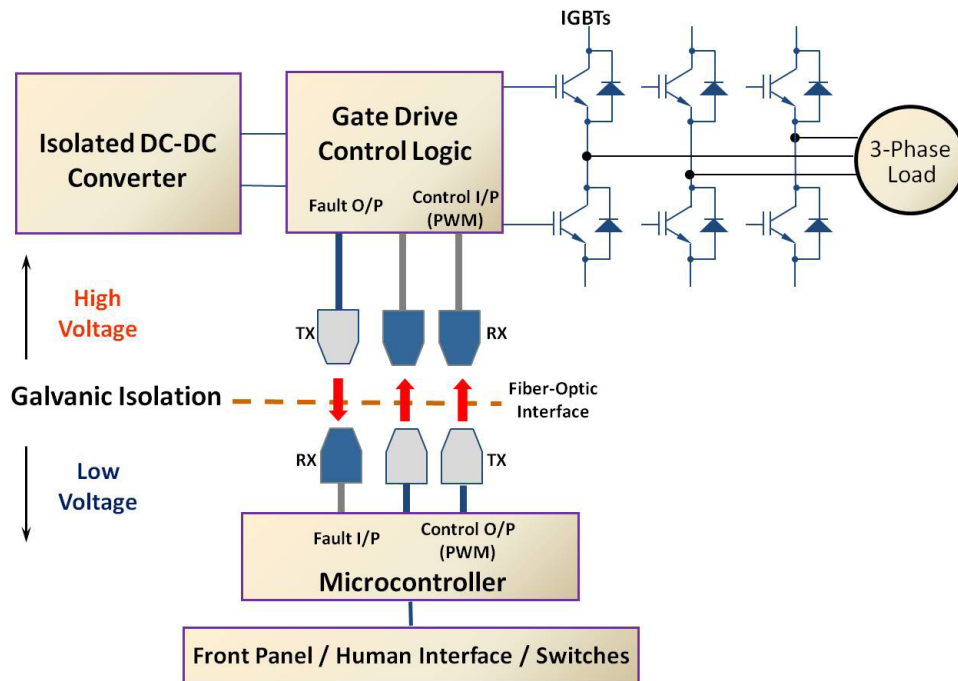

Figure 7. IGBT's Gate Driver Block Diagram
Another application of VLF is in Power inverters. A power inverter is a device that converts direct current (DC) to alternating current (AC). An inverter is necessary if the electrical source provides direct current (such as batteries, solar panels, or fuel cells), but the device to be powered needs alternating current to work. Large power inverters normally use IGBTs (Insulated Gate Bipolar Transistor) for switching (Figure 7). To control these IGBTs fiber optics are ideal because they provide galvanic isolation and EMI immunity.